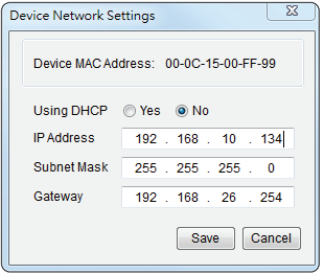

Figure 2. The Device Network setting window.
- 5. You can modify the IP Address, Subnet Mask, and Gateway address for the Device MAC Address listed in the Device Network Settings window, as shown in Figure 2. The factory default IP Address is 192.168.20.177 and the default Subnet Mask is 255.255.255.0.